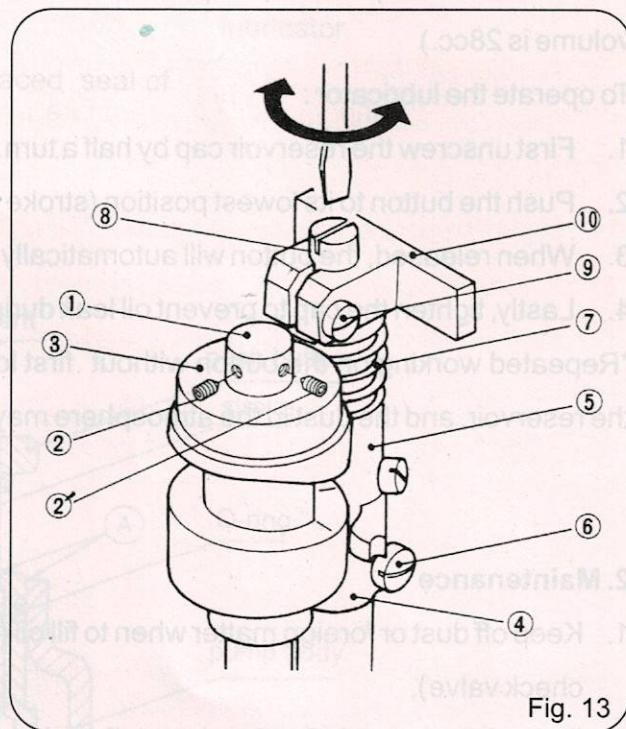

Fig. 13
Adjust Looper Drive Cam ③ when necessary as follows : (Refer to Fig. 13.).
- a) Apply the Screw ② and ② on the taper of Main Shaft ① .
- b) Adjust Arm (B) ④ , so that Looper Drive Cam ③ and Arm (A) ⑤ move smoothly . After adjusting, fix the Screw ⑥ tightly.
- c) The clearance between Looper Drive Cam ③ and Arm ⑤ is effected by Spring ⑦ Loosen Screw ⑨ and turn Spring Supporter ⑧ to adjust the pressure of Spring ⑦ After adjusting, tighten the Screw ⑨ to fasten Spring Supporter ⑧